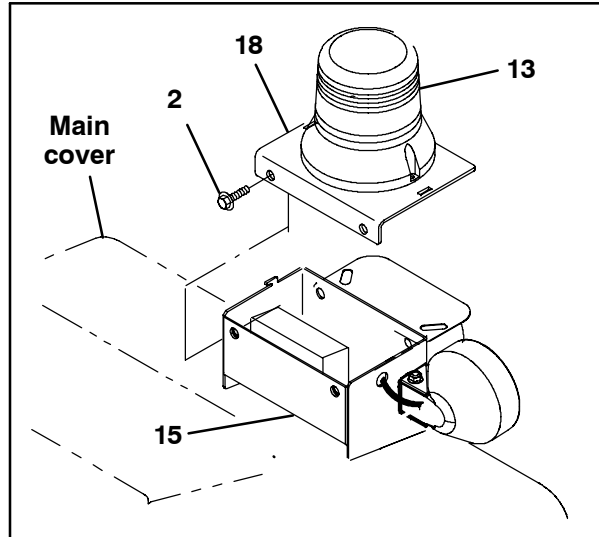
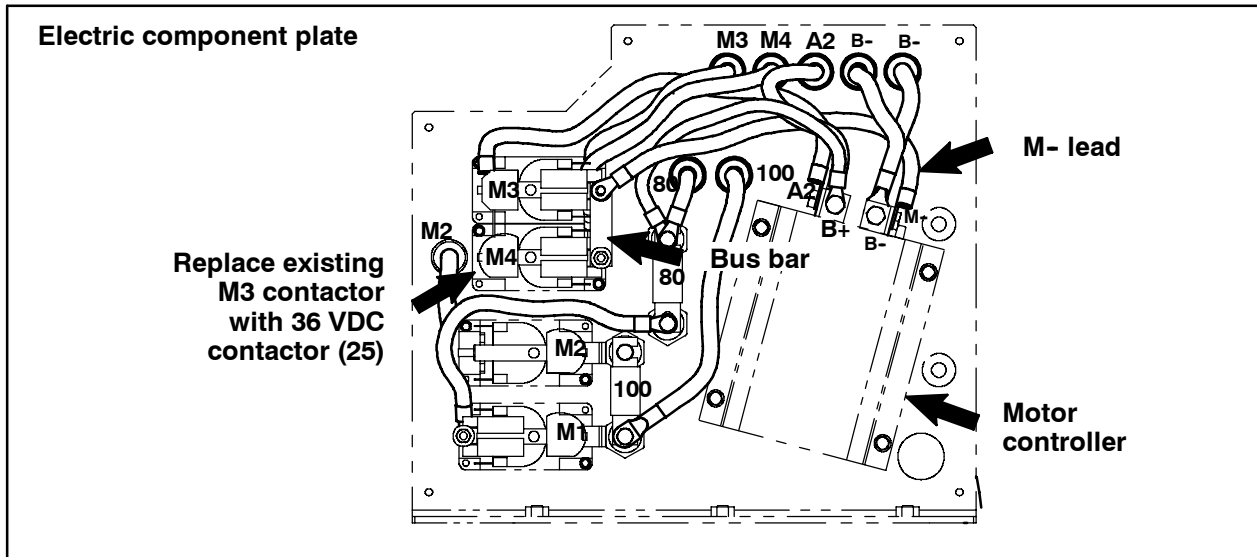

FIG. 6
FIG. 8
19. Connect the alarm / strobe harness (19) to the flashing light (13) and use two hex screws (2) to attach the light mounting plate (18) to the alarm bracket (15). Refer to Fig. 6 and Fig. 8.
25. Install the 36 VDC contactor (25) into M4 on the electric component plate. Refer to Fig. 8.
26. Reinstall the bus bar onto the M3 and M4 contactors and reconnect the M- lead to the M4 contactor. Refer to Fig. 8.